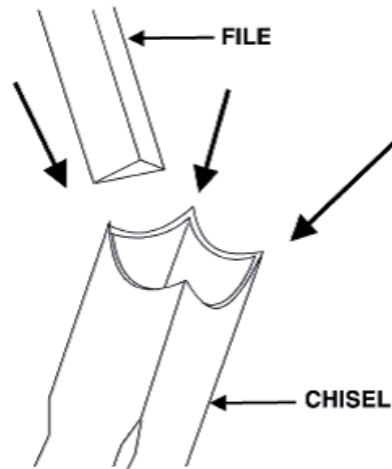

FIGURE 9
3. Use a small, triangular, smooth file to relieve the inner corners of the chisel. See Figure 9. Remove any burrs from the outside of the chisel with a fine oilstone.